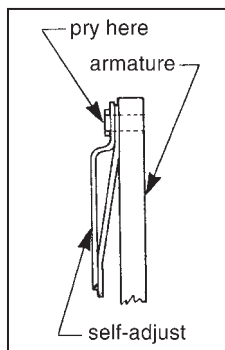

Figure 3
- If armature is not free to move, insert a screwdriver through the access hole in the conduit box and gently pry the armature (at outer base of self-adjust plate) toward the friction face until the armature is free to pull in. See Figure 3. It may be necessary to rotate the armature 120° at a time to pry the armature forward.